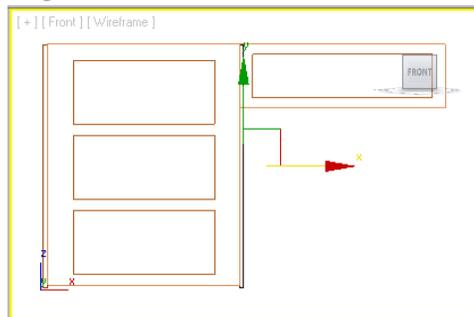

Figure 2-48 Alignment of *left face002*
4. In the Front viewport, copy *left face001* by using the **Clone Options** dialog box as described earlier; a new face is created with the name *left face002*. Now, align it with the other side of *left box*, as shown in Figure 2-48.